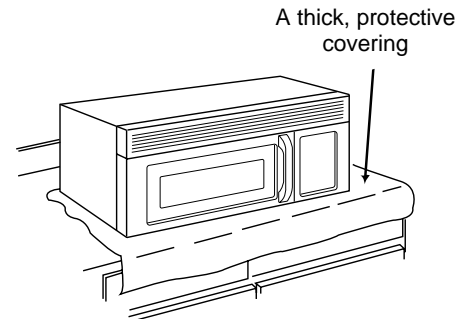

Figure 20
- Cover the counter top or cooktop with a thick, protective covering to protect it from damage and dirt. See Figure 20.